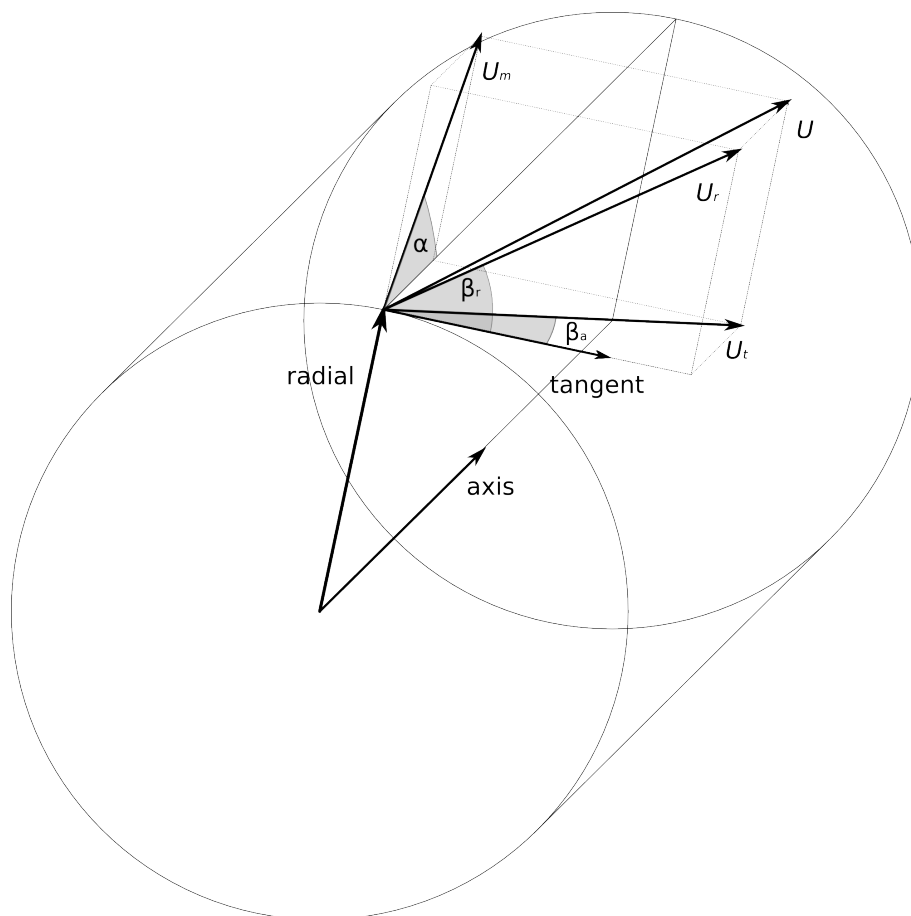

Figure 15.1: TCFD – Graphical representation of circumferential and meridional angle.
1. Circumferential and Meridional angle - tangent is chosen in such a way that axis, radial and tangent (in this order) form a right-handed coordinate system (look at Fig. 15.1). \mathbf{u} is relative velocity, \mathbf{u}_m is projection of \mathbf{u} into meridional plane, \mathbf{u}_r is projection of \mathbf{u} into radial plane, \mathbf{u}_t is projection of \mathbf{u} into tangential plane. Meridional angle α is angle between axis and \mathbf{u}_m . It is positive, when \mathbf{u}_m points away from axis and negative when \mathbf{u}_m points toward axis. Axial circumferential angle β_a , is angle between tangent and \mathbf{u}_t . Radial circumferential angle β_r is angle between tangent and \mathbf{u}_r . It is positive when \mathbf{u}_r points out (of the cylinder in the picture), it is negative when \mathbf{u}_r points in.